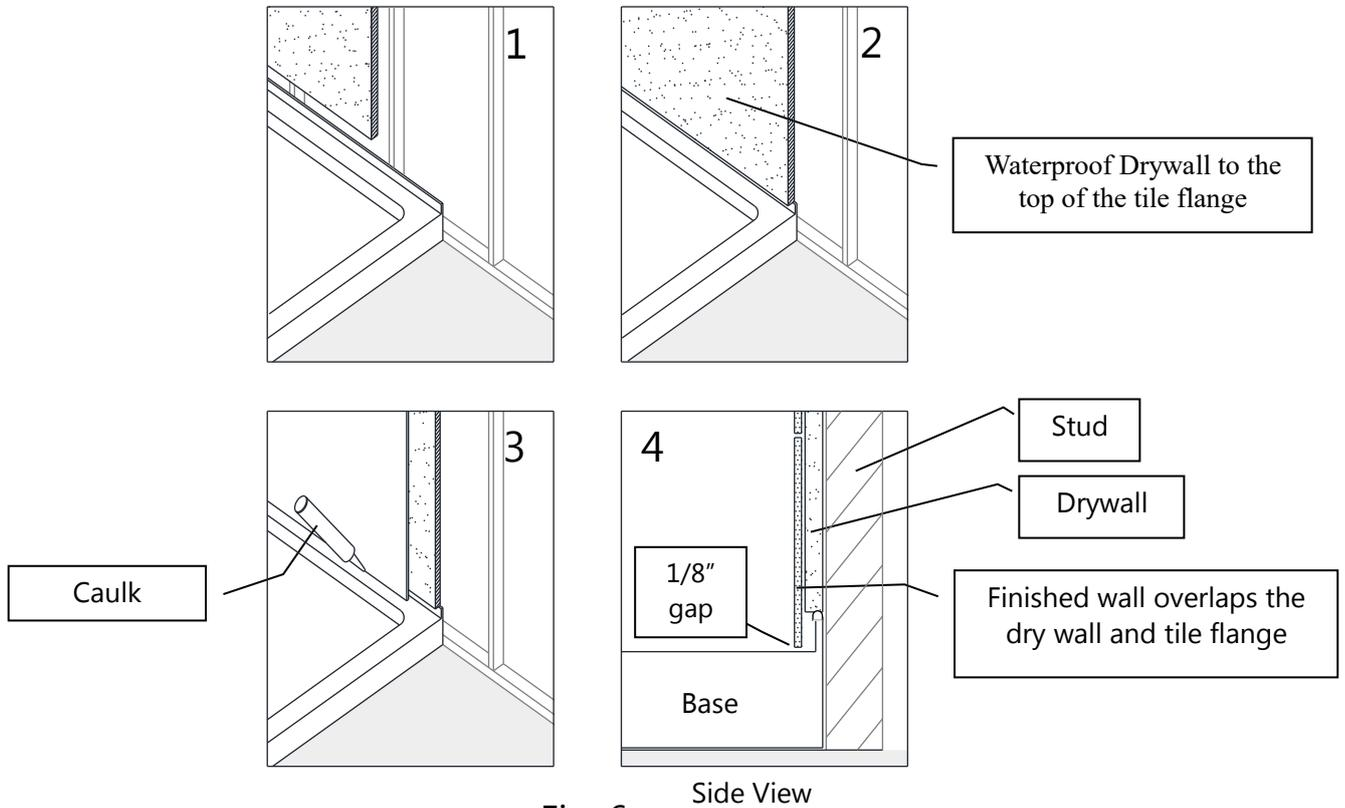

Fig. 6
- Put the tiles (or other finishing wall material) over the drywall leaving 1/8" gap between the bottom of the tile and the splash rim of the shower tray. Use caulk to fill that gap. (Fig 6)